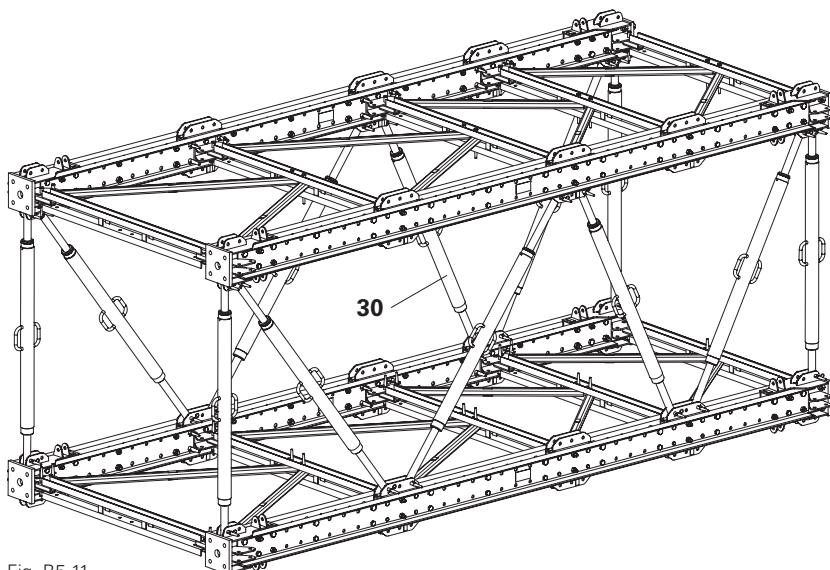

Fig. B5.11
1. Install the required number of heavy-duty spindles SLS (**30**) using fitting pins Ø 21 mm (**9**). (Fig. B5.11)